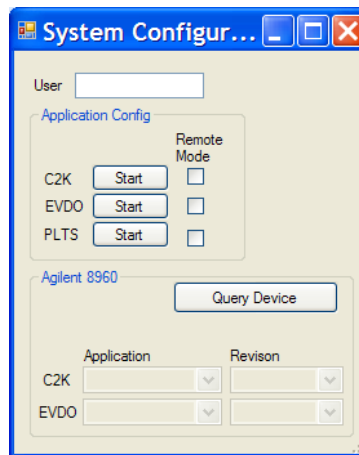

Figure 5-3: System Configuration Window
The *System Configuration* window displays, as shown in Figure 5-3.
12. Select the application using the Agilent 8960 settings in the System Configuration window, as shown in Figure 5-3.